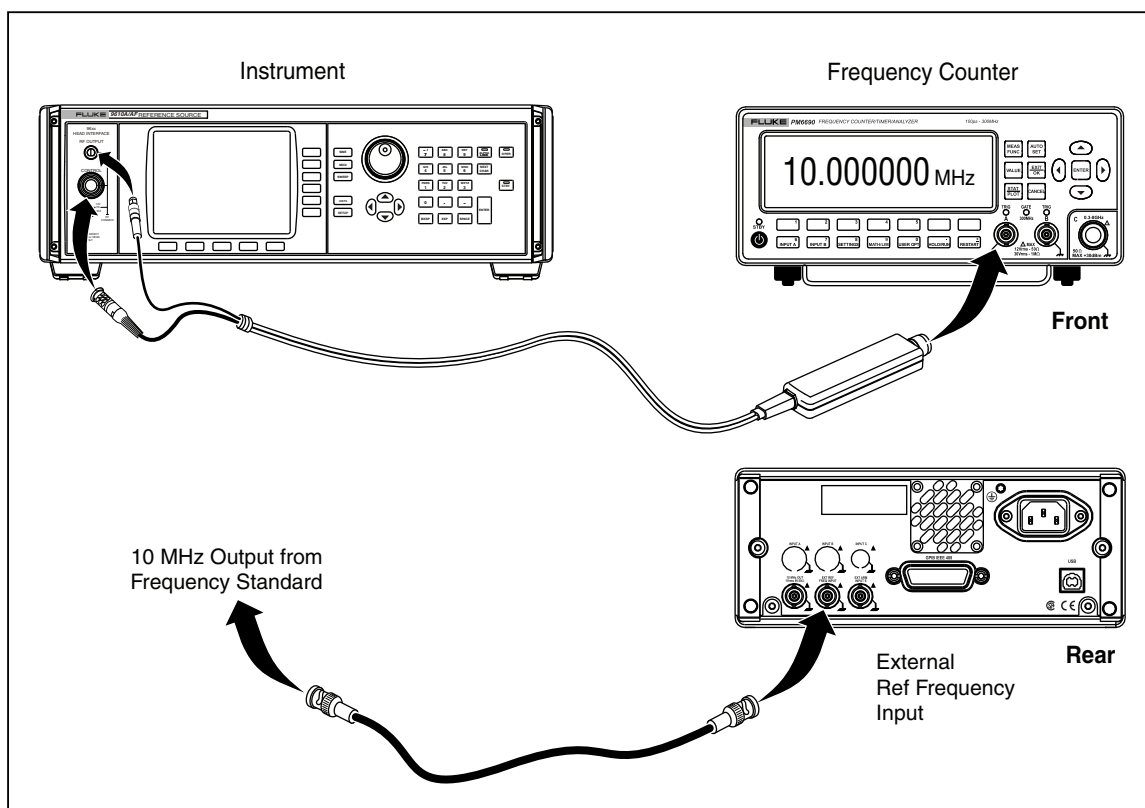

Figure 5-2. Equipment Connections - Frequency Accuracy Test
3. Connect the 50 Ω Leveling Head to the Channel A input of the frequency counter using a Type-N female-to-BNC male adapter. Set the frequency counter input impedance to 50 Ω . See Figure 5-2 for equipment connections.